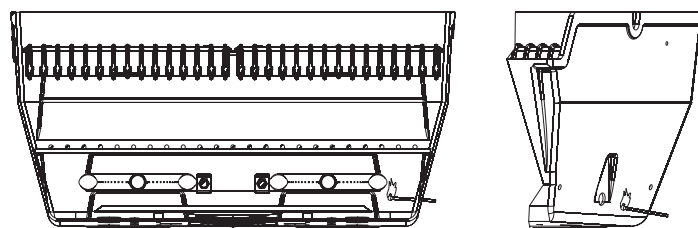

Figure 20
4. Insert a burning long wooden match through the lighter hole on either side of the grill. See Figure 20.